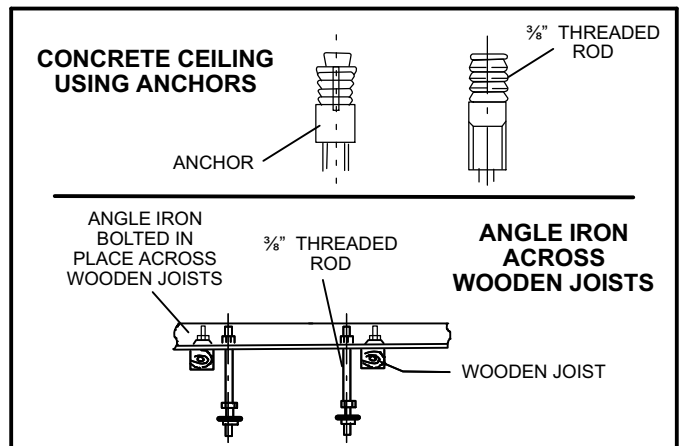

Figure 1. Suspending Methods
- 2 - **Make sure that the structural ceiling is able to support the weight of the branch box. It may be necessary to add extra support.** If the structural ceiling is constructed of concrete, install anchors to accept four 3/8" threaded rods to suspend the branch box. If the structural ceiling includes wooden joists, use angle iron or a Unistrut channel fixed securely in place to accept the 3/8" threaded rods. See figure 1.